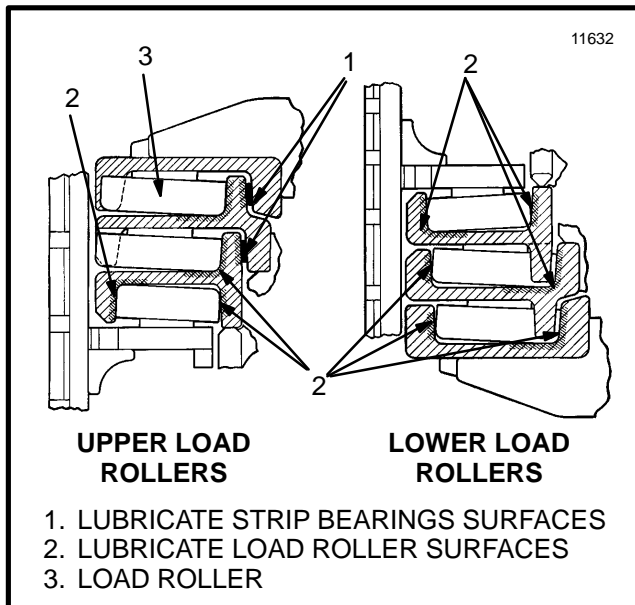

FIGURE 13. LUBRICATE THE MAST
### MAST (See FIGURE 13.)
2. Lubricate the sliding surfaces and the load roller surfaces along the *full length* of the channels as shown in FIGURE 13. Only apply lubricant to surfaces that are clean and dry. Only apply lubricant to the darker areas like those indicated by 1 and 2.